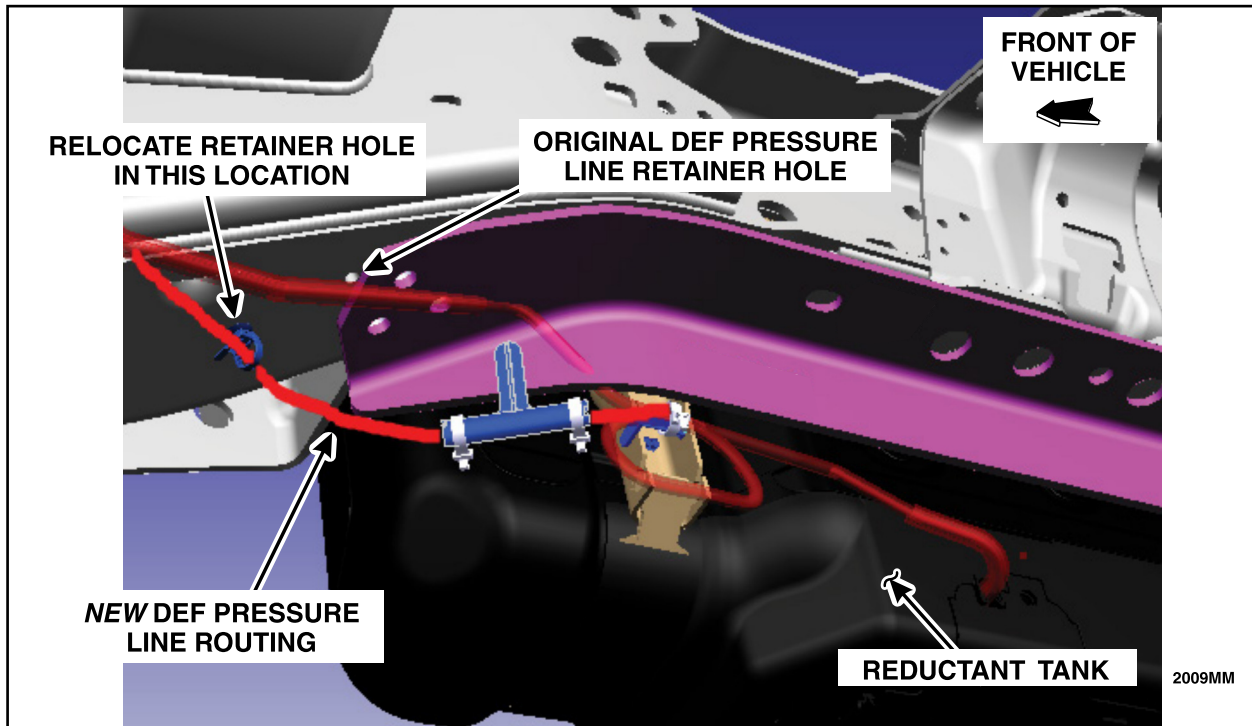

FIGURE 33
- Using a drill and an 8mm (0.31 in) bit, drill a *new* hole location, for the *new* routing clip, forward of the lower frame rail bracket. Using a small brush and Motorcraft® High Temperature Anti-Corrosion Coating (PM-13-A), apply the coating in and around the hole that was just drilled, to cover any bare metal present from the drilling of the hole. Then, install the supplied push pin zip tie into the new hole location and position the DEF pressure line and secure in place with the zip tie as shown in Figure 33.
NOTE: The *new* drill hole location should be determined by positioning the DEF pressure line in its natural relaxed position toward the frame and marking a location for the *new* drill hole, forward of the *new* reinforcement bracket as shown in Figure 33.